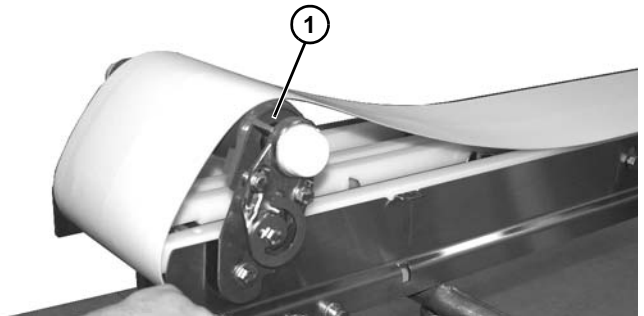

Figure 20
3. Tip up idler tail (**Figure 20, item 1**).